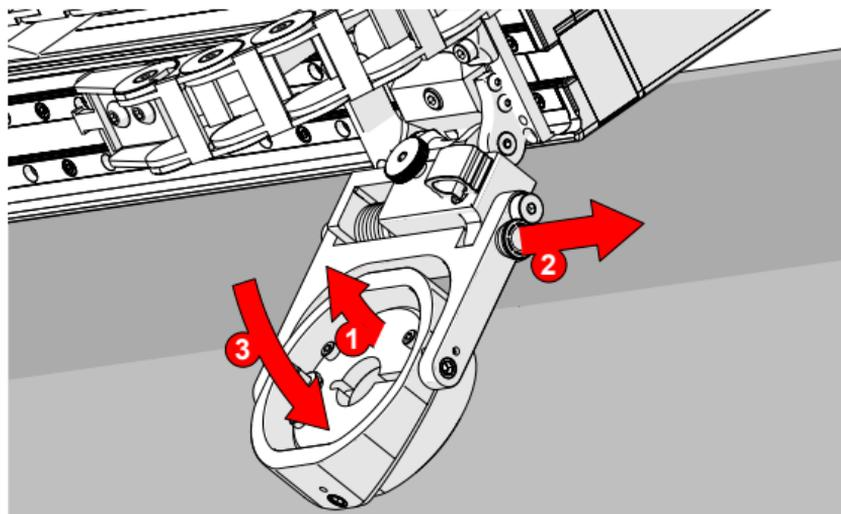

Fig. 135 - Pull probe holder latch to release corrosion thickness probe holder
8. Gently **1** lift the probe holder (Fig. 135).
9. **2** Pull the probe holder latch (Fig. 135).
10. **3** Lower the probe holder gently to the scan surface (Fig. 135).